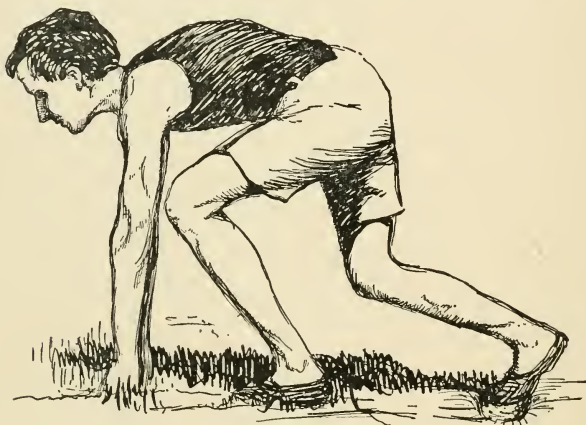

FIG. 265.
**For Short Sprints** the most common method of starting is upon all fours, as illustrated in Fig. 265. Make a